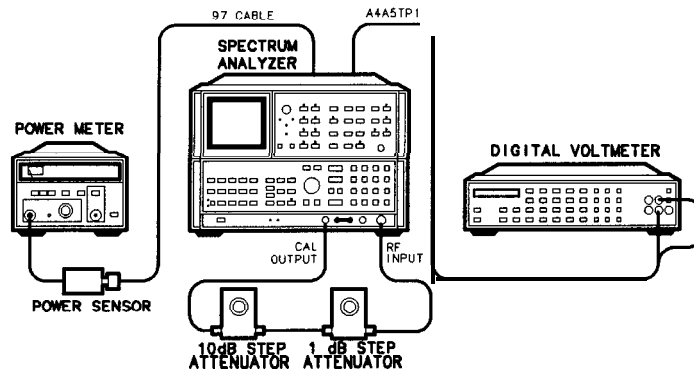

Figure 3-46.
1. Position the spectrum analyzer upright as shown in Figure 3-46 and remove the IF-Display Section top cover.